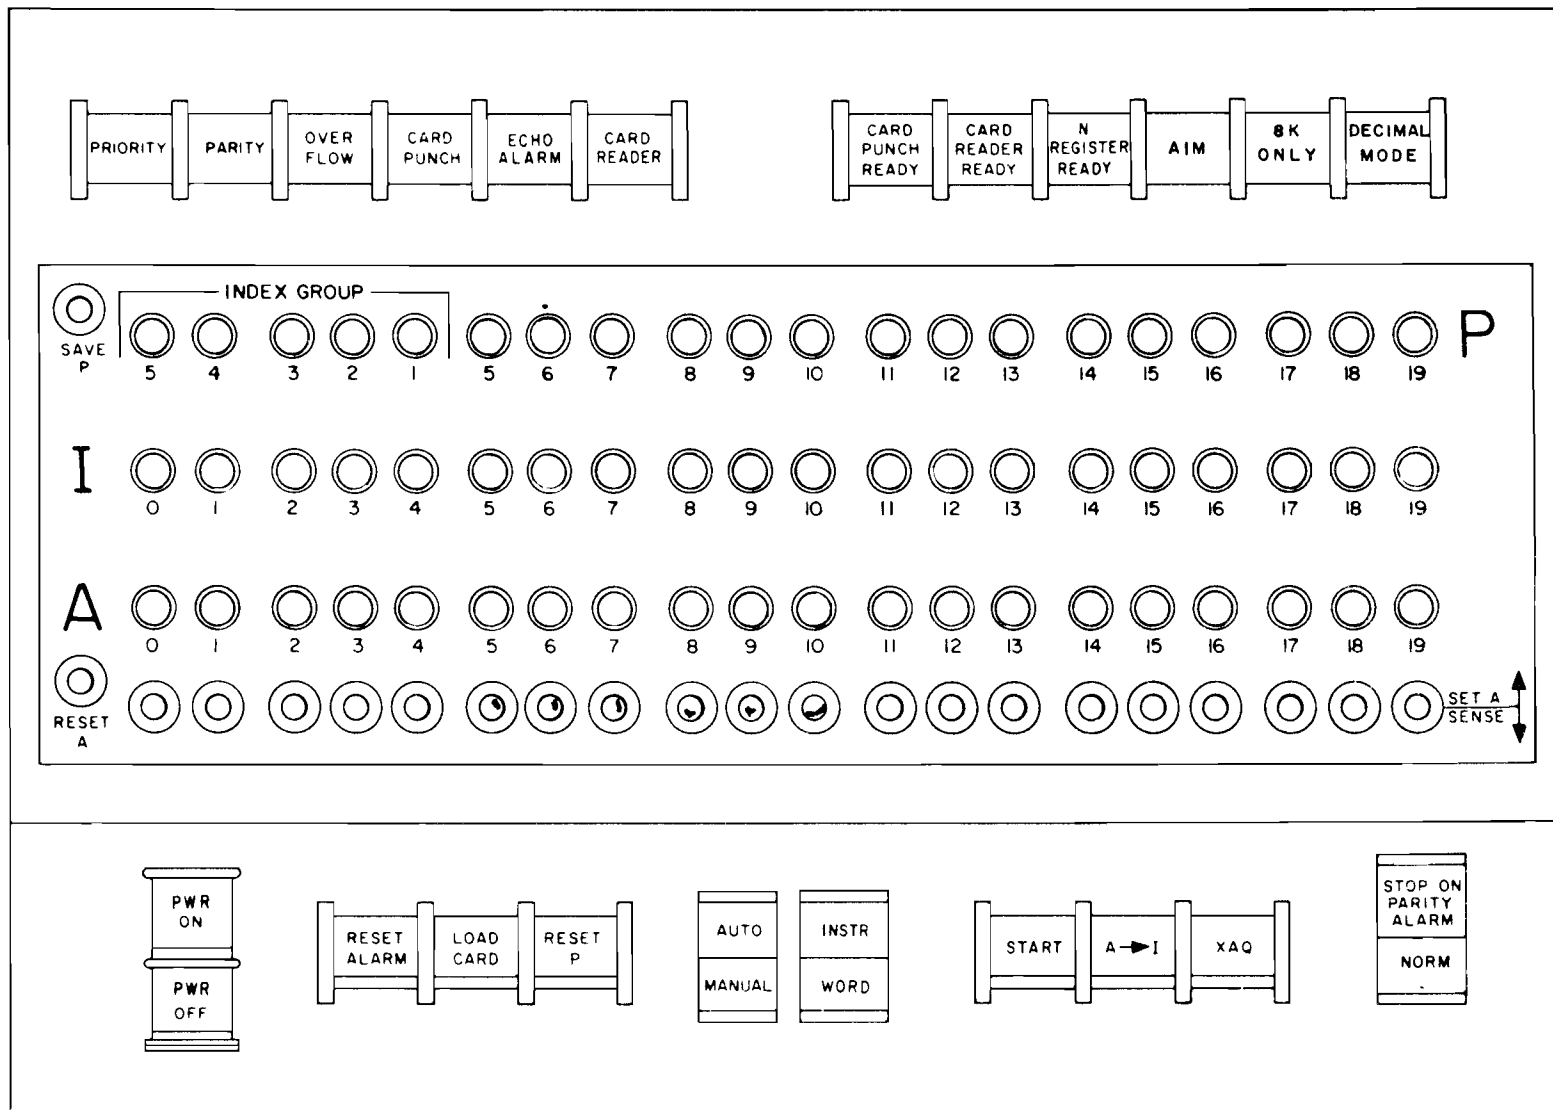

Figure IV-3. The Control Console
B. CONTROL CONSOLE. The control console (Figure IV-3) is the most important and most used panel on the GE-225. It is sometimes referred to as having both an indicator panel and a control panel, for the upper two thirds of the console contains indicator lights and the lower third contains control switches. The indicators are alarm lights, ready lights, and register display lights for the A, I, and P registers. The controls are option switches and control switches.